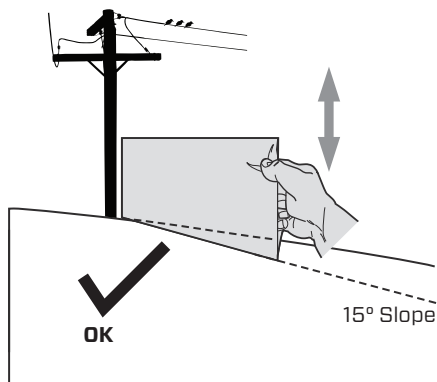

Figure 1
3. Align either side of the slope gauge with the object (See Figure 1 and Figure 2 ).
4. Adjust gauge up or down until the left corner touches the slope (See Figure 1 and Figure 2).